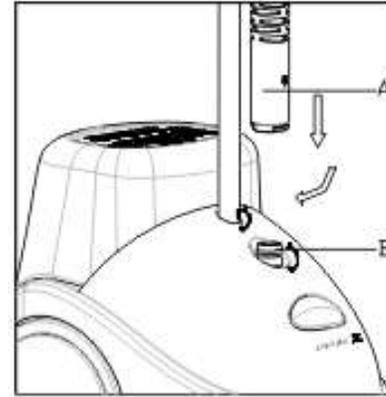

Fig. 4
1. Insert end of steamer hose with the long tube bushing (marked A) into the adapter hole (marked B) on the unit. Rotate hose 90° to lock in place. (See fig. 4)